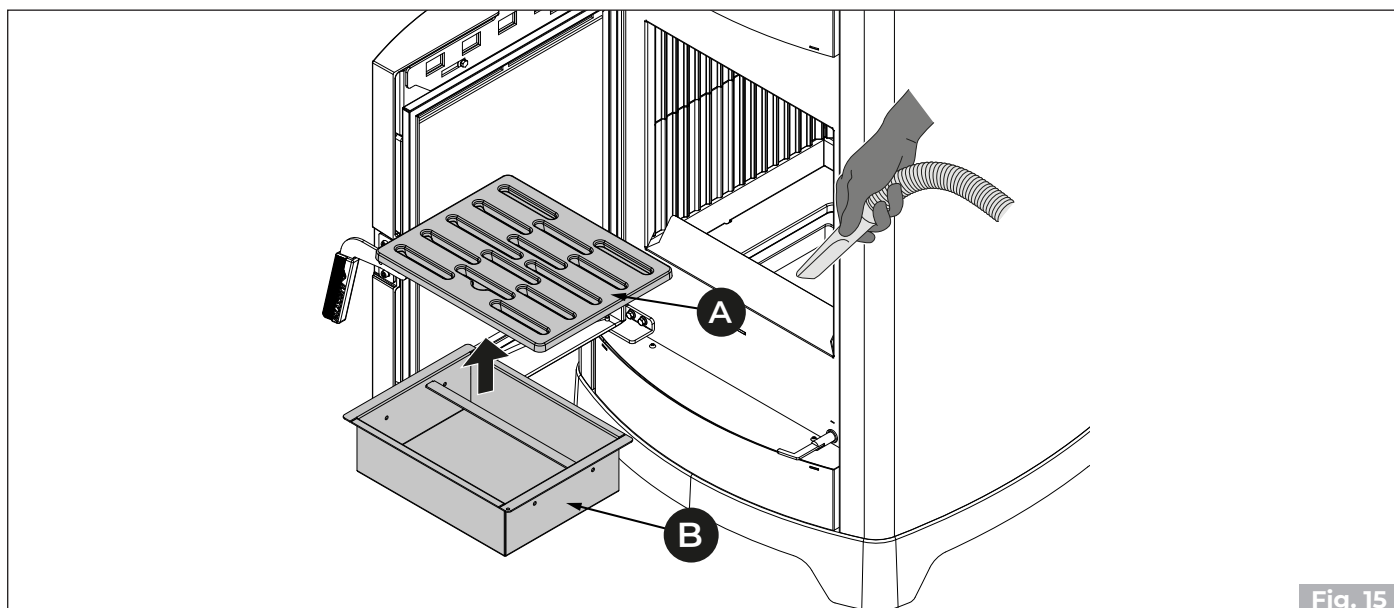

Fig. 15
- 1) Carefully clean the grate (A) (Fig. 15). Remove it and clean the fire box using a hand brush (not supplied) brushing the combustion residues into the ash drawer.
- 2) Extract the ash drawer (B) from the base and vacuum out any ash deposited in the compartments below (Fig. 15).